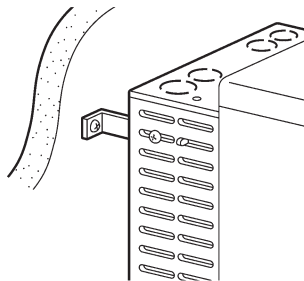

Fig. 13
8. Secure the L-shaped hose to the intake inlet opening with the hose band. Secure the bent joint to the flue pipe with the pipe holder (If the extension pipe is used, also attach the pipe holder to the connection of the bent joint and the extension pipe). Secure the bent joint (or the extension pipe) to the exhaust outlet opening by sliding the pipe stopper in the exhaust opening bracket (See Fig. 13).